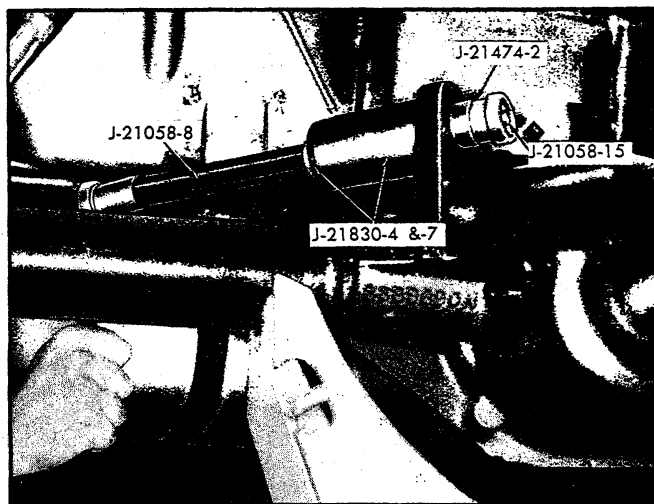

Fig. 39—Carrier Mounted Suspension Bushing Removal (Light-Duty) (Chevelle)
- b. Install Receiver J-21830-4, Bridge J-21830-7, Thrust Bearing, and Nut J-21058-8 (in that order) onto puller screw. Refer to Figure 39 for installed view of tools.